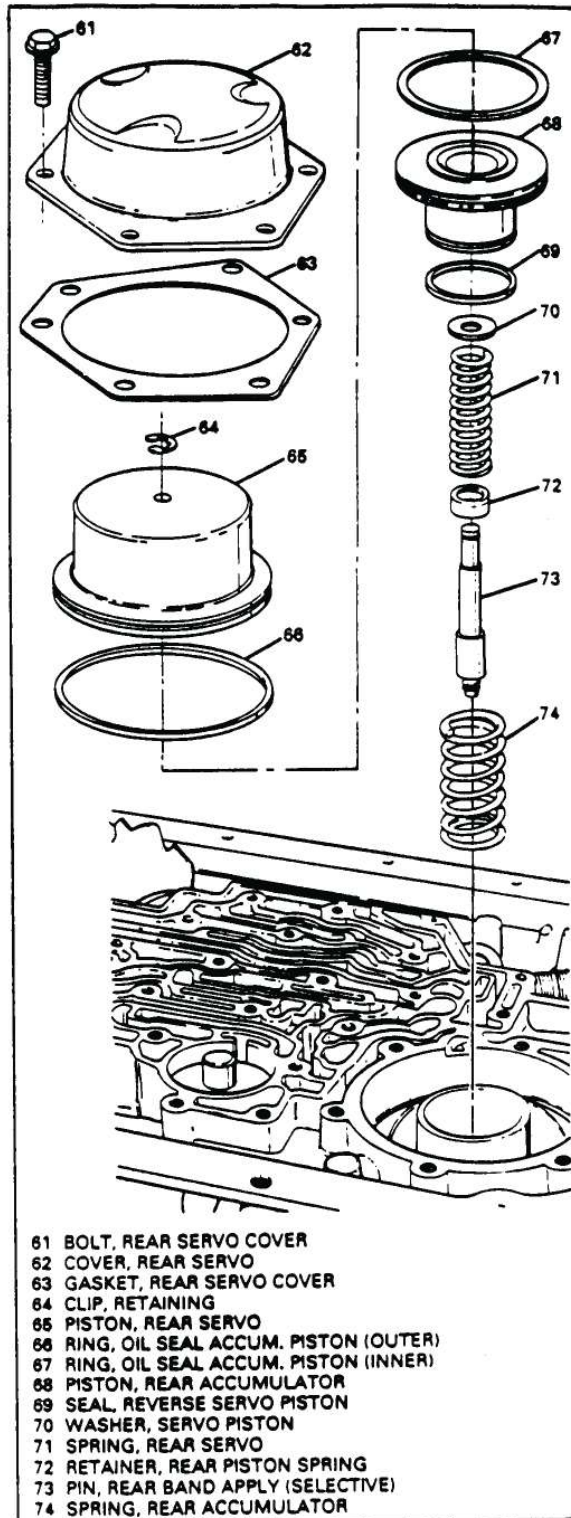

Figure 116
1. Install retainer (72) on reverse servo pin, spring (71) and washer (70) on servo pin (See Figure 116).
2. Install the servo pin assembly through the reverse servo piston, and install the "E" clip (See Figure 116).
3. Install a new seal onto the reverse servo piston, and lubricate with petroleum (See Figure 116).
4. Install the 1-2 accumulator piston on the inside of the reverse servo piston. (See Figure 116).
5. Install the 1-2 accumulator spring (74) into the case bore (See Figure 116).
6. Install the reverse servo assembly into the case bore, using care so as not to cut the seal (See Figure 116).
7. Install new reverse servo cover gasket on case (See Figure 116).
8. Install the reverse servo cover, and 6 retaining bolts (See Figure 116).